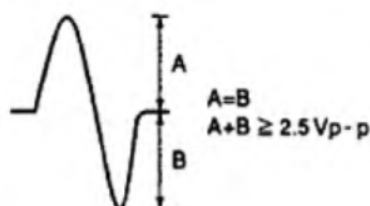

Figure 2
3. While watching the oscilloscope screen, press the PROGRAM key and observe the waveform in Figure 2 for a moment. Verify that the amplitude is at least 2.5 Vp-p and that the positive and negative amplitude are about equal. Since the waveform is only output for a moment when the PROGRAM key is pressed, press this key over and over until you have checked the waveform.